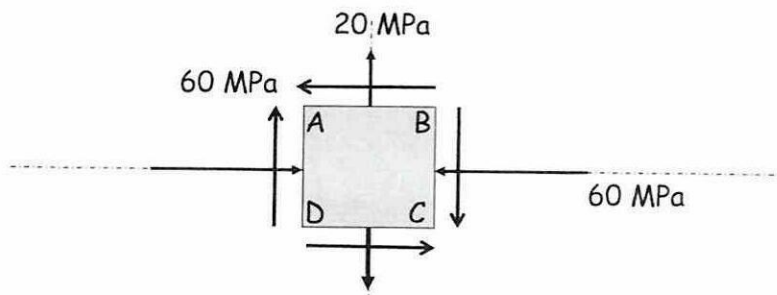

Figure Q2
- Q2** The state of plane stress at a point on a body is shown on the element in the **Figure Q2**. Analyse: